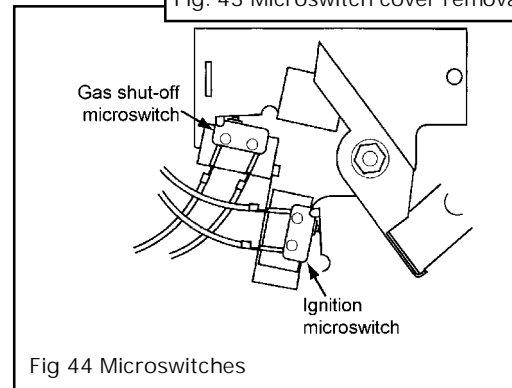

Fig 44 Microswitches
**13.1.3** Disconnect the leads from the ignition microswitch (The lower of the two microswitches - See figure 44).
**13.2.4** Detach the microswitch assembly by removing two screws (see figure 44).